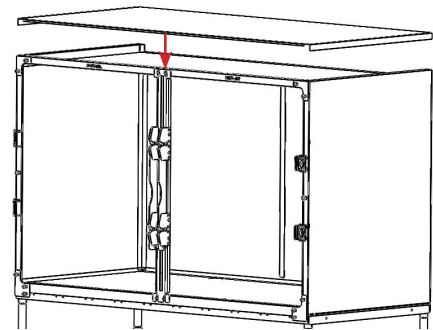

FIGURE 2.63 - Top Panel Installation
STEP 16: Align the front flange with the face of the cage frame, behind the trim plates and hardware. Set the top panel down onto the cage and push the front flange against the cage frame. See FIGURE 2.63